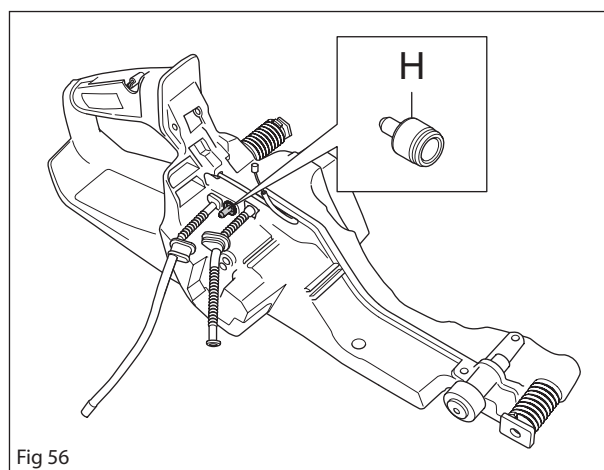

Fig 56
2. Loosen the positive pressure hose as outlined in figure 56. Connect the pump, ref. no. 531 03 06-23, to the tank valve H.